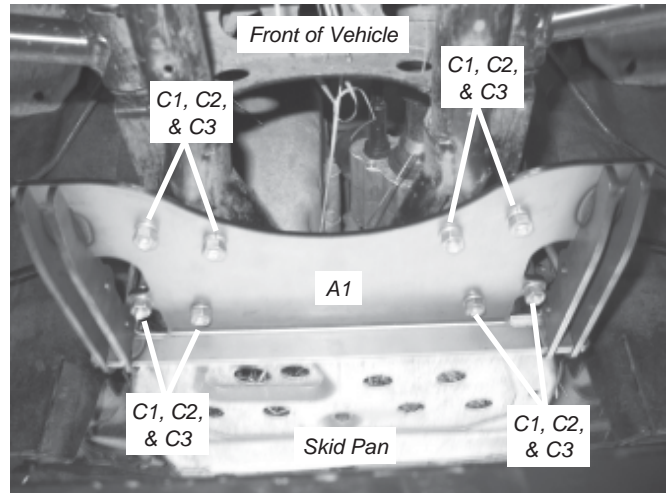

Figure 1 Install Plow Mount
3. Tighten all the 5/16" dia nylock nuts (C3) on the plow mount (A1). Tighten each nut just a little and work around each one until they are tightened to a recommended torque of 12 ft-lb (16 N-m). The completed plow mount should look like figure 1.